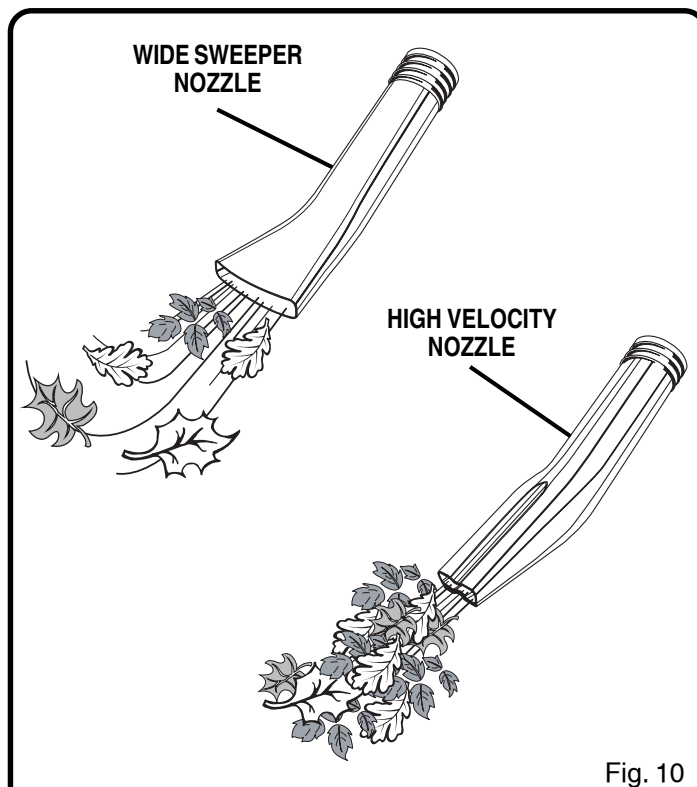

Fig. 10
- Use the wide sweeper nozzle for the everyday blowing operation. This nozzle allows for more area to be covered during the blowing operation. *See Figure 10.*
- The high velocity nozzle is great for wet sticky leaves. It allows you to scrape wet leaves or debris while operating the blower. *See Figure 10.*